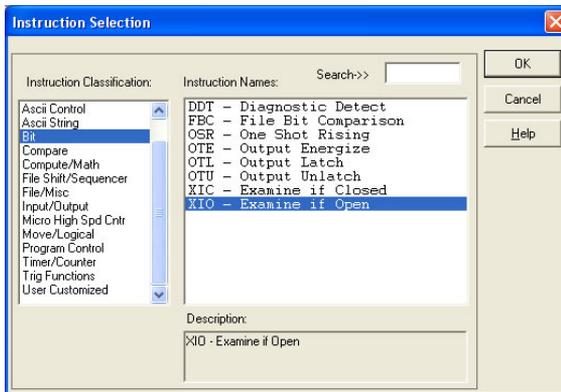

Figure 115: XIO Instruction Selection
b) Select the "XIO" instruction from the "Bit" classification, then click OK. Refer to Figure 115.